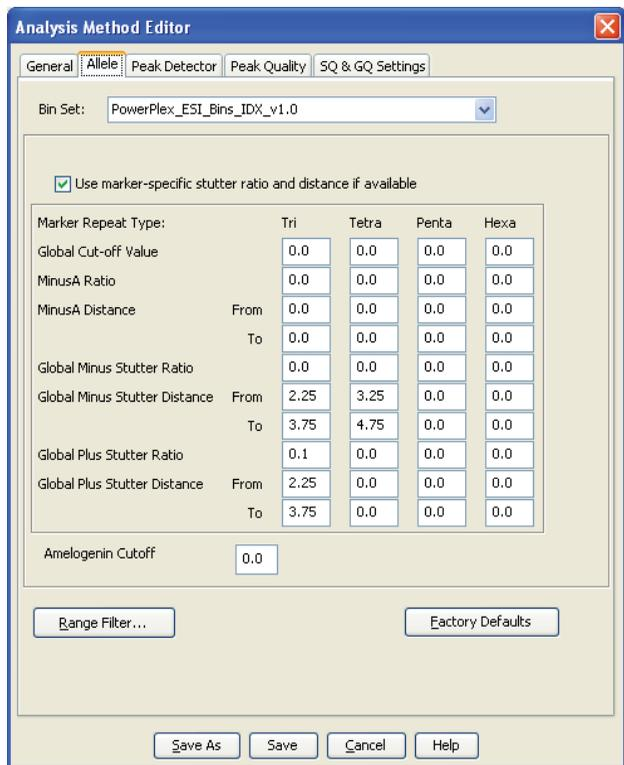

Figure 16. The GeneMapper® ID-X Allele tab.
6. Select the Allele tab (Figure 16).
9. We recommend the values shown in Figure 16 for proper filtering of stutter peaks when using the PowerPlex® ESI 17 Pro System. You may need to optimize these settings. In-house validation should be performed.